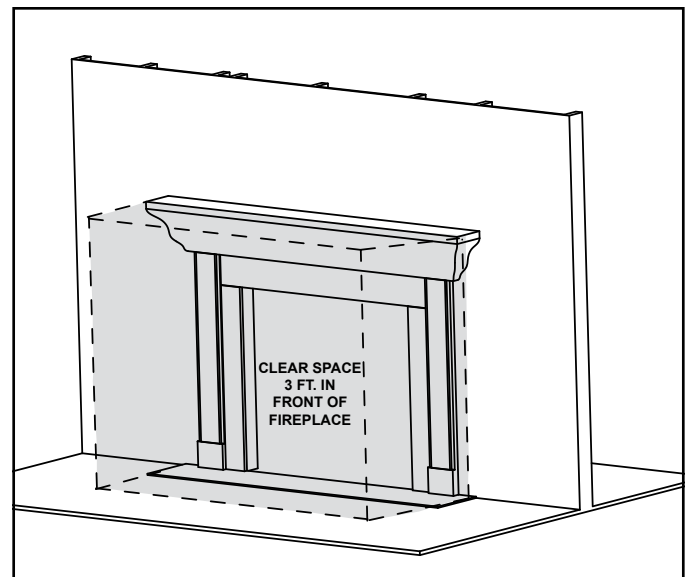

Figure 3.1 Clear Space Requirement - All Models
**WARNING! DO NOT place combustible objects in front of the fireplace or block fireplace openings. High temperatures could start a fire. See Figure 3.1.**